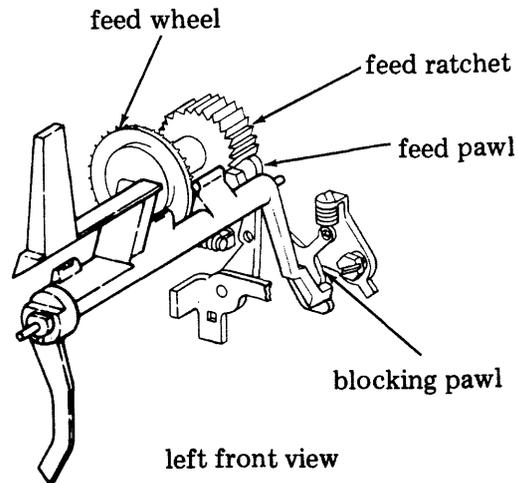

Figure 13 - Freewheeling Mechanism
A. Freewheeling Mechanism (Figure 13)